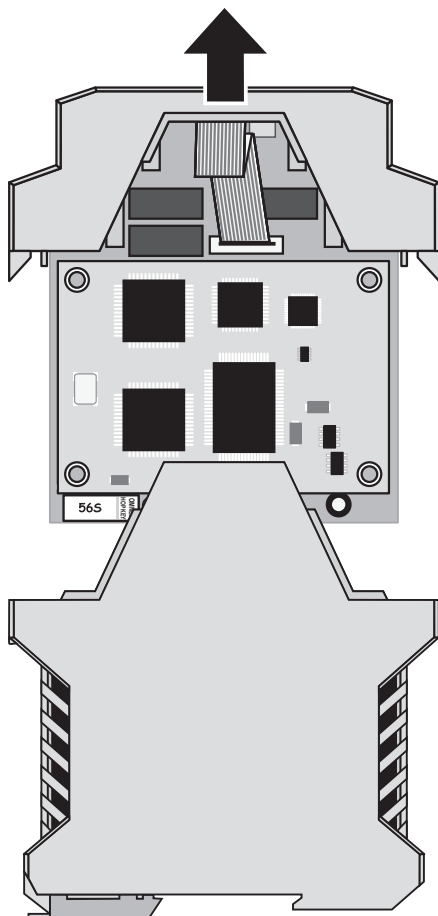

Figure 30 Removing the electronics module
4. Open the housing of the transceiver in the existing system by pressing both housing latches on the sides. Remove the electronics module from the housing (see Figure 30).